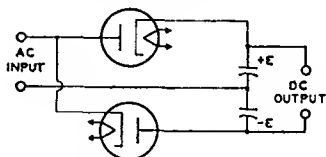

Fig. 19—Full-wave voltage-doubler circuit.
**A voltage-doubler** circuit of simple form is shown in Fig. 19. The circuit derives its name from the fact that its dc voltage output can be as high as twice the peak value of ac input. Basically, a voltage doubler is a rectifier cir-
So long as no current is drawn at the output terminals from the capacitor, each capacitor can charge up to a voltage of magnitude  $E$ , the peak value of the ac input. It can be seen from the diagram that with a voltage of  $+E$  on one capacitor and  $-E$  on the other, the total voltage across the capacitors is  $2E$ . Thus the voltage doubler supplies a no-load dc output voltage twice as large as the peak ac input voltage. When current is drawn at the output terminals by the load, the output voltage drops below  $2E$  by an amount that depends on the magnitude of the load current and the capacitance of the capacitors. The arrangement shown in Fig. 19 is called a full-wave voltage doubler because each rectifier passes current to the load on each half of the ac input cycle.